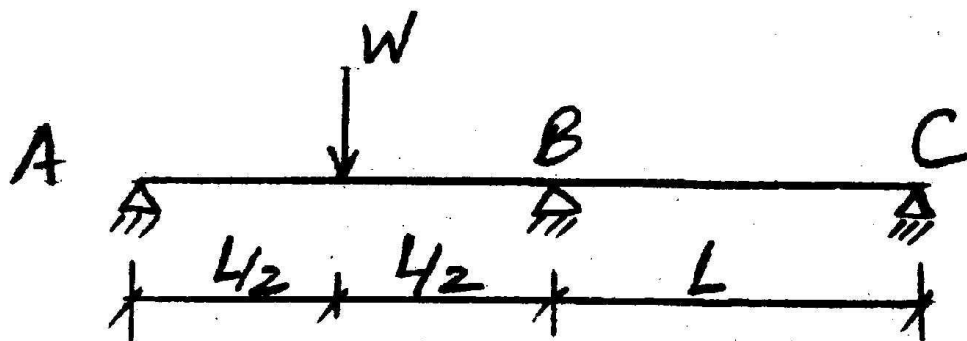

Fig. 5
- (b) A continuous beam is shown in Fig. 5. Find out the support reactions using conjugate beam method.